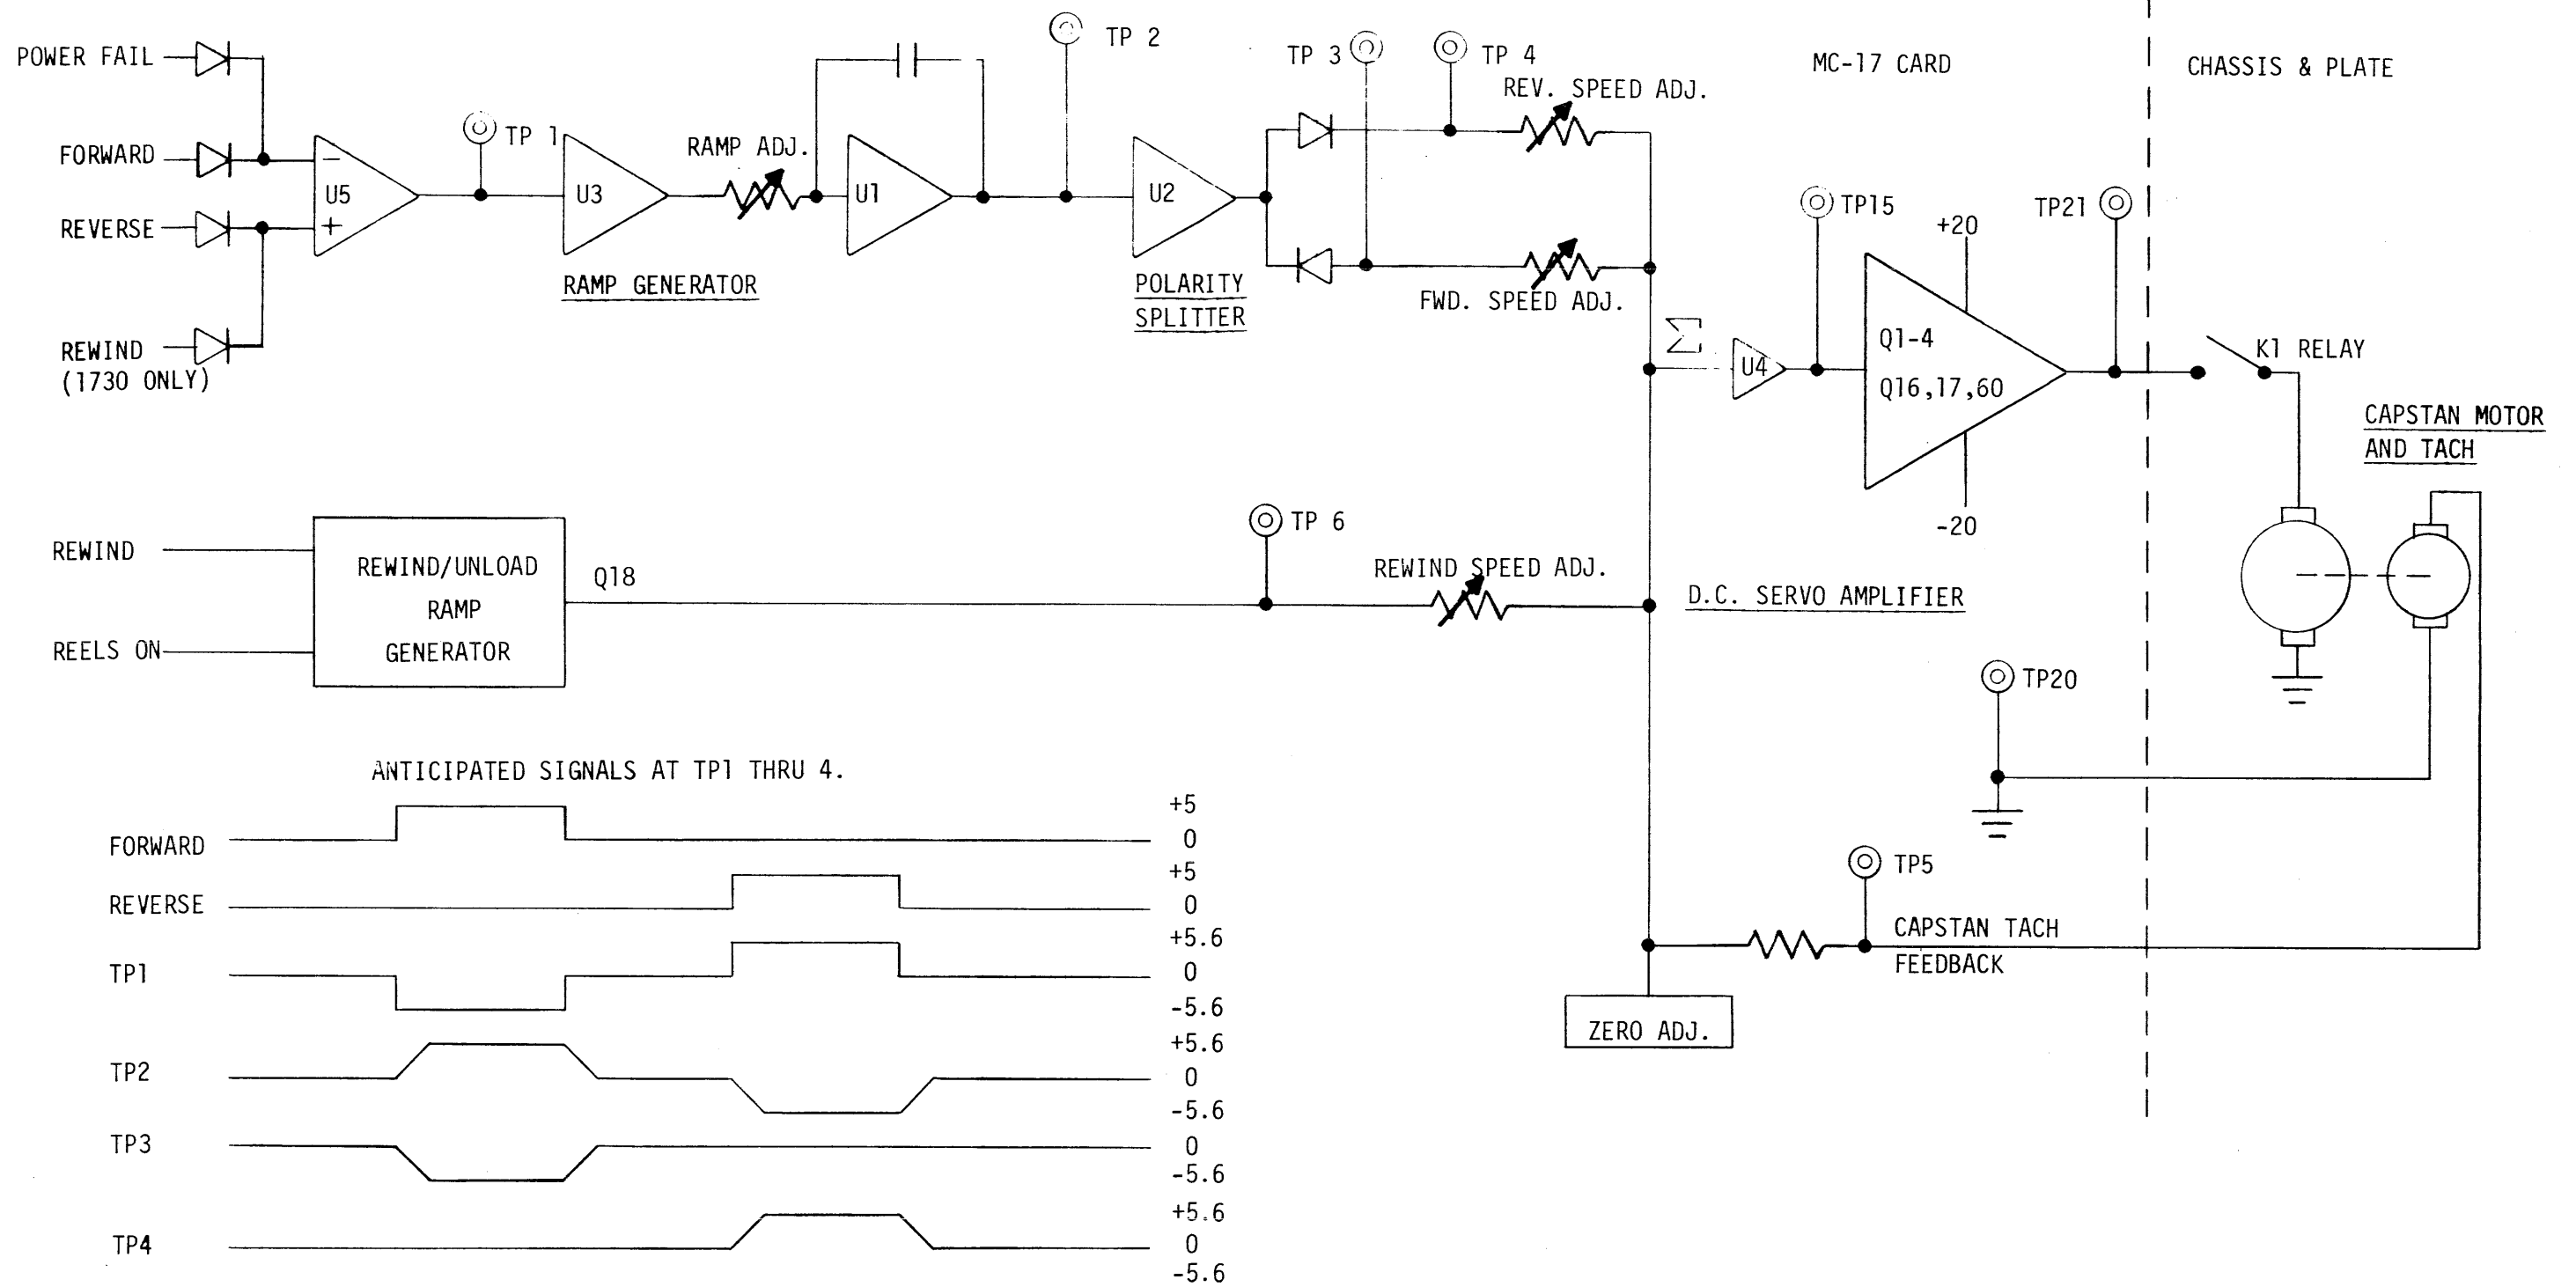

Figure 7-11,
7.3 CAPSTAN SERVO SYSTEM. The capstan servo block diagram, figure 7-11, indicates the major components of this system. Also refer to schematic drawing 0250002, sheet 3.